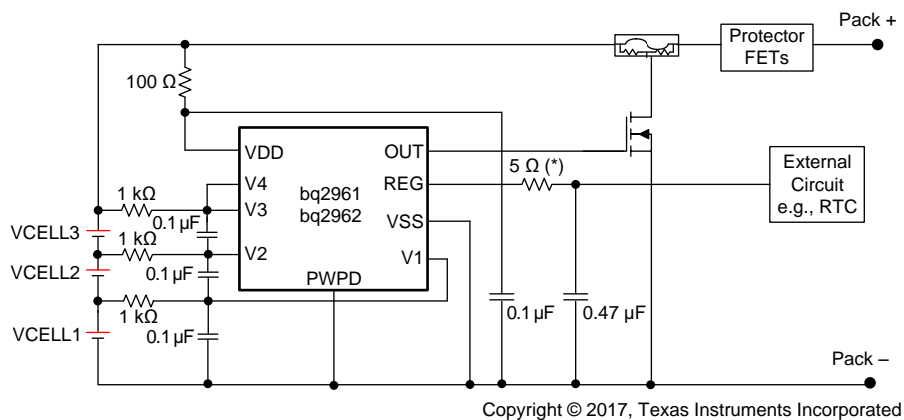
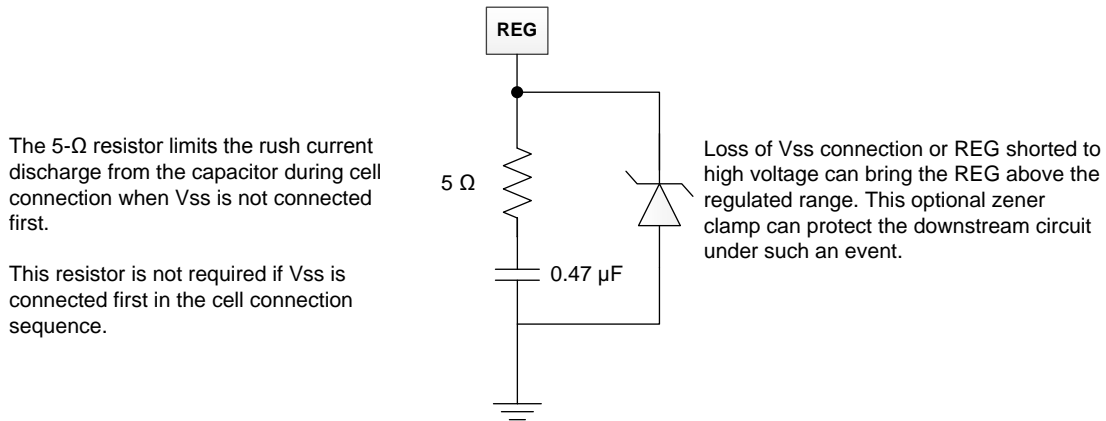

Figure 17. 3-Series BQ2961 and BQ2962 Schematic
Figure 18. 5-V Zener Diode
1. If the VSS pin cannot be connected first, it is required to add a resistor of a minimum of 5 Ω to a maximum of 10 Ω (a 5-Ω resistor is used in the reference schematic, Figure 17) in series with the REG capacitor. When VSS is floating, the REG capacitor always charges up to the VDD voltage. When VSS is finally connected, the REG capacitor will be discharged. Adding a small resistor in series reduces the current strength and avoids any potential damage to the REG pin. The 5-Ω resistor can be placed in series with the REG connect circuit (as shown in Figure 17) or in series of the REG capacitor (as shown in Figure 18). Placing the resistor in series with the REG circuit results in a small drop of V_{REG} (for example: max loading of I_{REG} mA with a 5-Ω resistor will drop 5 mV on V_{REG}), but such a connection can protect against rush current discharge from a REG capacitor or an external filter capacitor connected to the REG pin. Placing the resistor in series with the REG capacitor is an alternative to avoiding an additional drop in V_{REG} if the filter capacitor used by the external circuit is much smaller than the REG capacitor.
3. The cell should be connected to the lower V_n pin; the unused V_n pin should be shorted to the (V_{n-1}) pin. See Figure 17 for details.
4. A zener diode can be added to the REG pin to VSS, as shown in Figure 18. This is recommended to protect the circuit connected to the REG pin if floating VSS in the field is a risk concern. When VSS is floating (during cell connection when VSS is not connected first or in a system fault with a broken BAT– wire), the REG voltage always pulls up to VDD. In a 4-series configuration, the REG voltage can reach approximately 16 V with VSS floating. Adding a zener diode clamps the REG voltage to a safe level for the external circuits connected to the REG pin. Having the zener diode can also protect the external circuits if the REG pin is shorted to the OUT pin or any other high-voltage output terminal. If a zener diode is used, TI recommends putting the diode on the battery side with the BQ296xxx device to allow protection on the REG pin, as well as the circuit connected to REG under the floating VSS condition. The resistor in series with the REG pin is not required in this case.